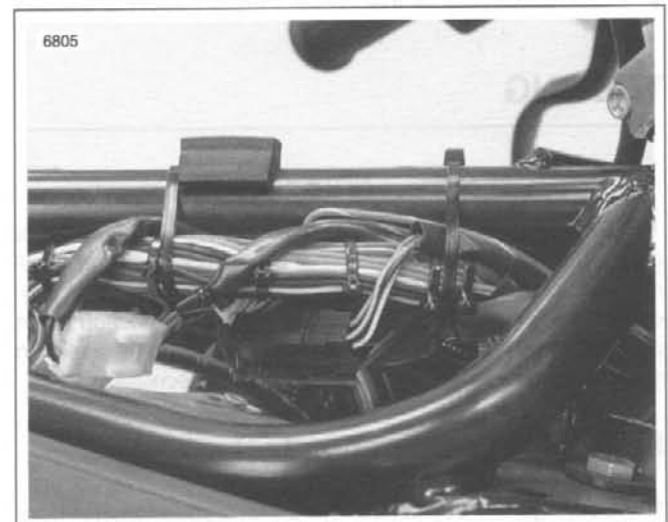

Figure 7-67. Tachometer Wiring Connector Locations (Approximate)
- b. Cut cable straps on wiring harness. See Figure 7-67. Detach wires at plug connector.
- a. See Figure 7-67. Attach wires at plug connector.